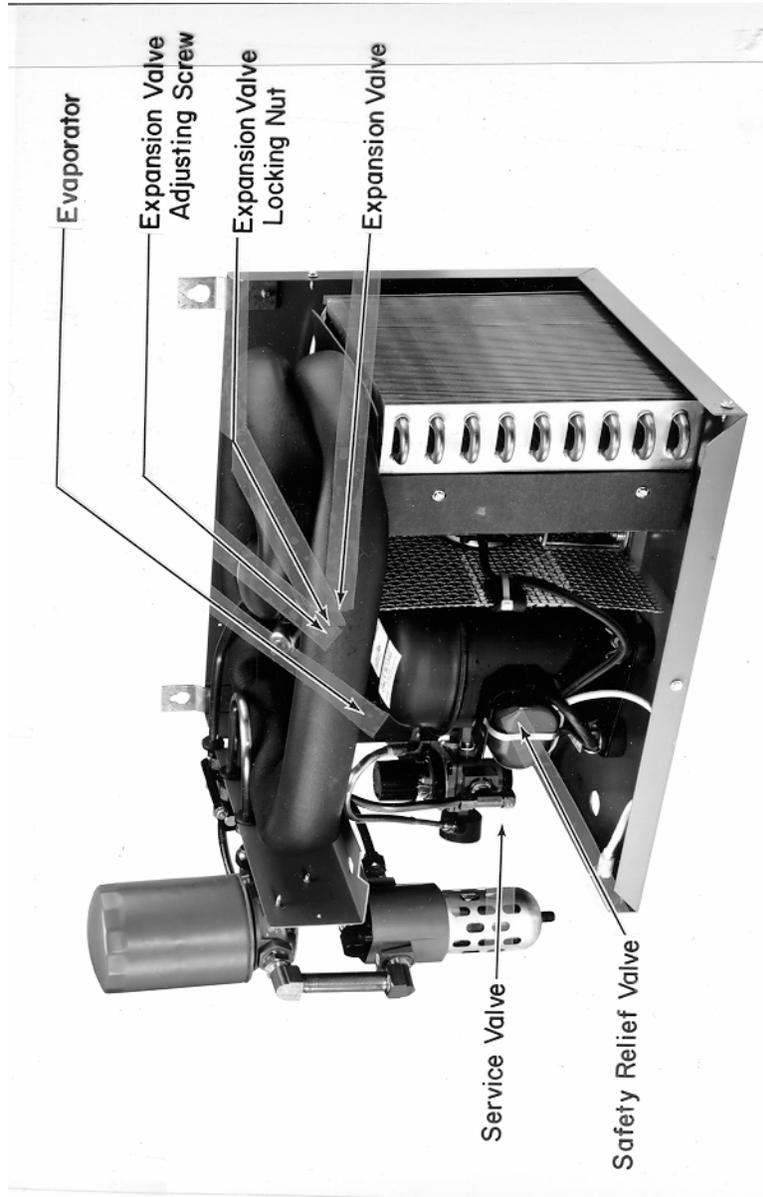

Figure 9: A-4400 Series Refrigerated Air Dryer with Cover Removed
3. Release the locking nut on the expansion valve adjusting screw (refer to Figure 9).